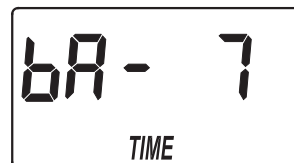

FIG. 26
2. Press the SELECT button twice, so that "bA TIME" appears in the display (See Figure 26).